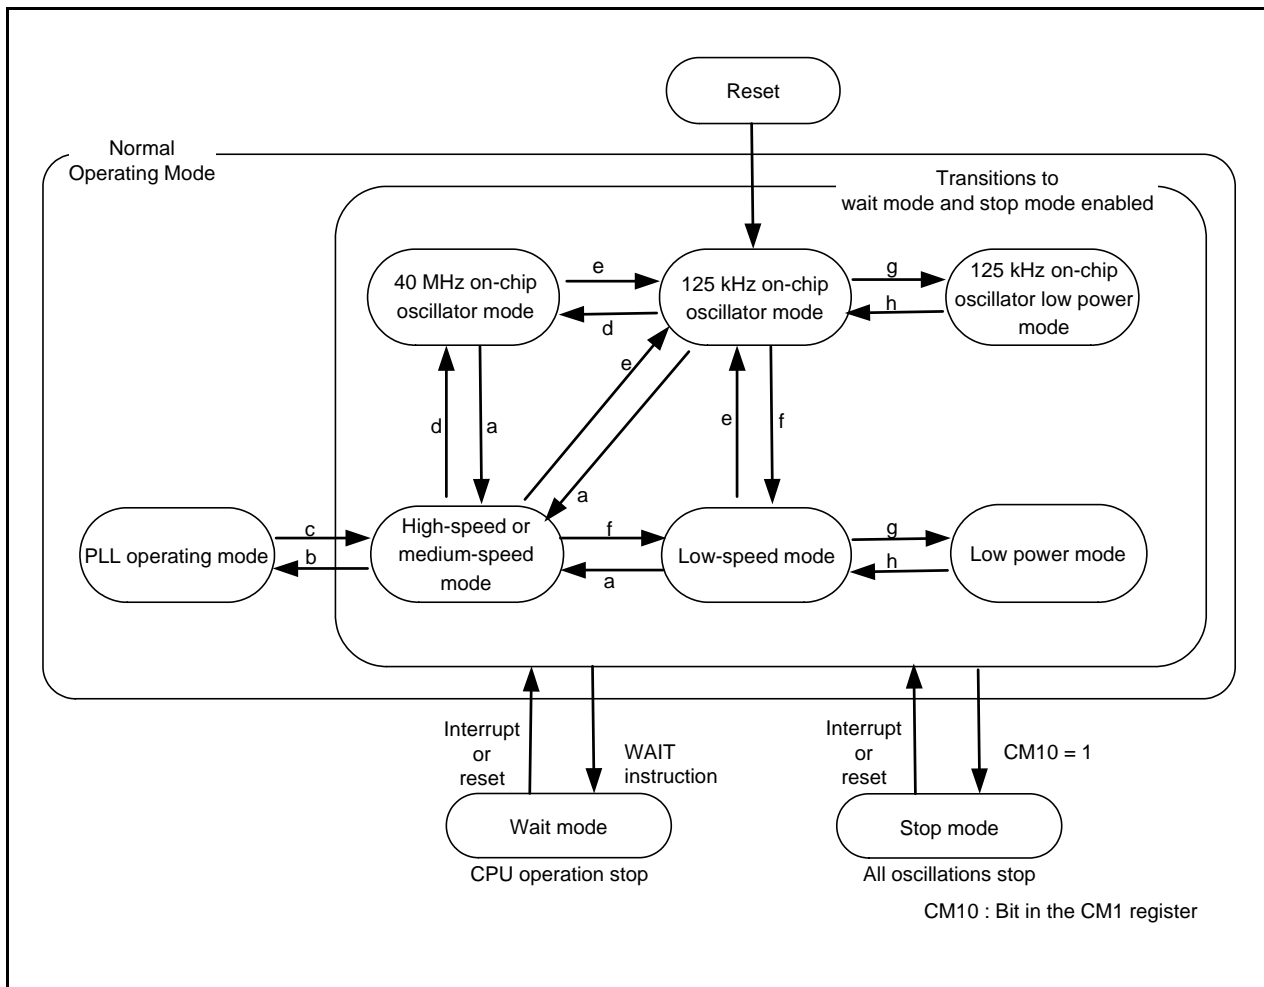
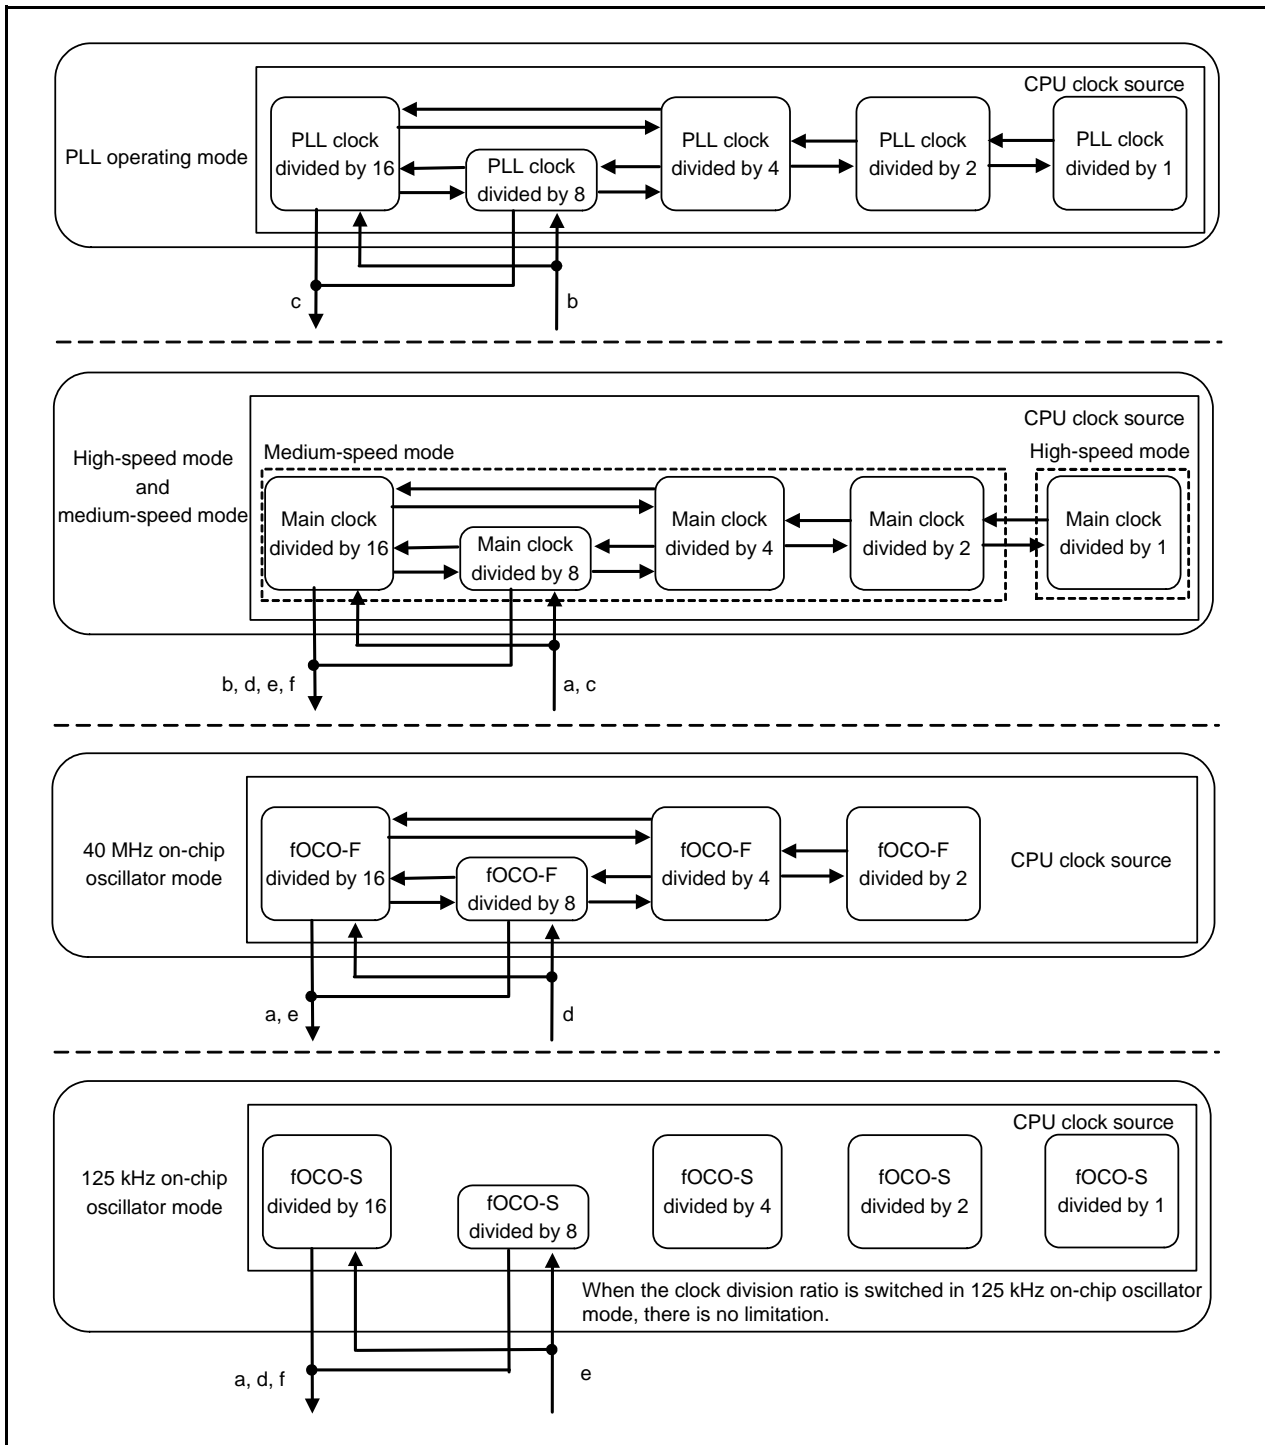

Figure 9.1 Clock Mode Transition
Figure 9.2 Clock Divide Transition
PLL operating mode can be entered and exited from medium-speed mode. To enter other modes including wait mode and stop mode, enter medium-speed mode first, and then enter the intended mode. Refer to Figure 9.1 "Clock Mode Transition" for details.
Figure 9.1 shows Clock Mode Transition. Arrows indicate possible mode transitions.
- When the clock division ratio is switched in PLL operating mode, high-speed or medium-speed mode, or 40 MHz on-chip oscillator mode, the ratio changes in the order shown in Figure 9.2.
- To change the mode, follow procedures a to h listed below. For details on register and bit access, refer to 9.2 “Registers”. Letters a to h correspond to those in Figure 9.1 “Clock Mode Transition” and Figure 9.2 “Clock Divide Transition”.